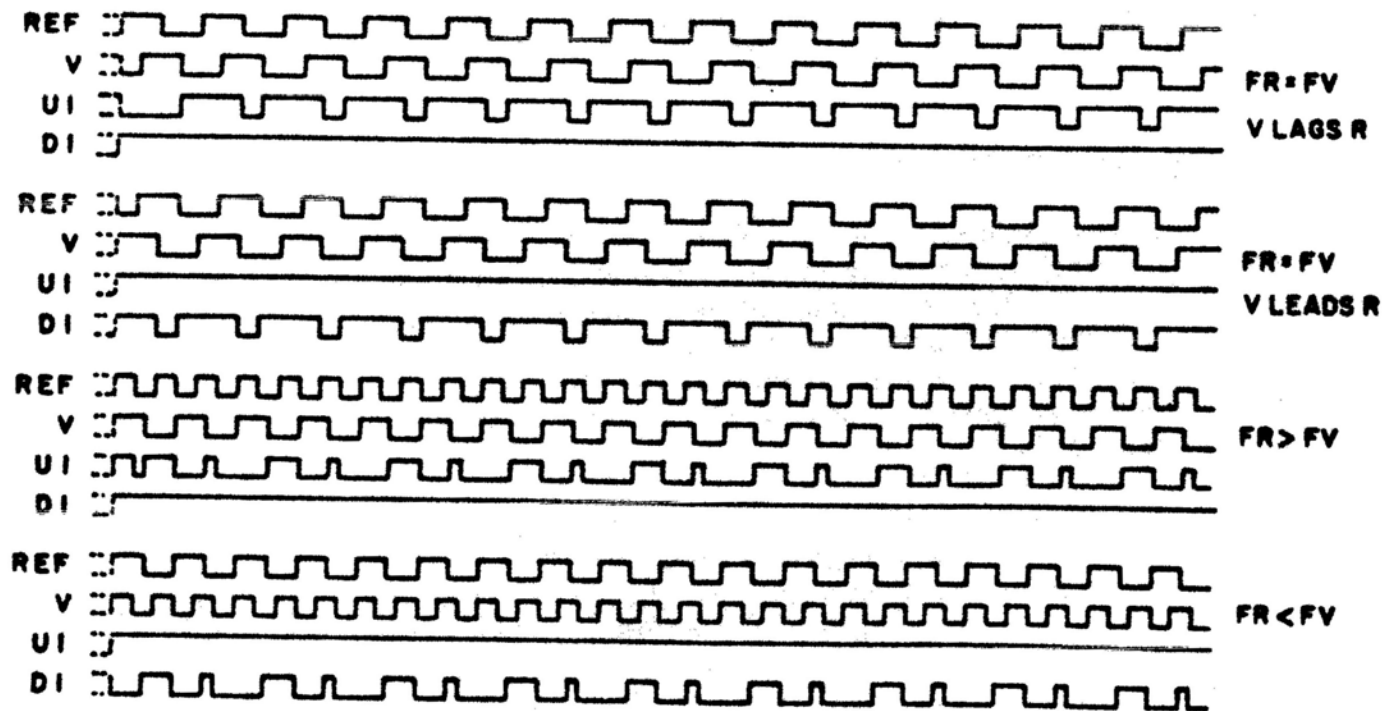

Figure 3-21. Phase Detector Timing Diagram
The phase detector normally receives a fixed reference frequency at one input (R) and a variable frequency at the input (V) from the divider section. The output responds only to transitions from the two inputs and has four output states as shown in Figure 3-21. If the frequency and phase match exactly, outputs U and D remain high. If the variable input leads in phase with respect to the reference input, U remains high and D goes low. If the variable input lags in phase with respect to the reference input, D remains high and U goes low. When inputs V and R are separated by a frequency difference, the output at pins U or D varies high and low at a rate proportional to the difference frequency of the two inputs.